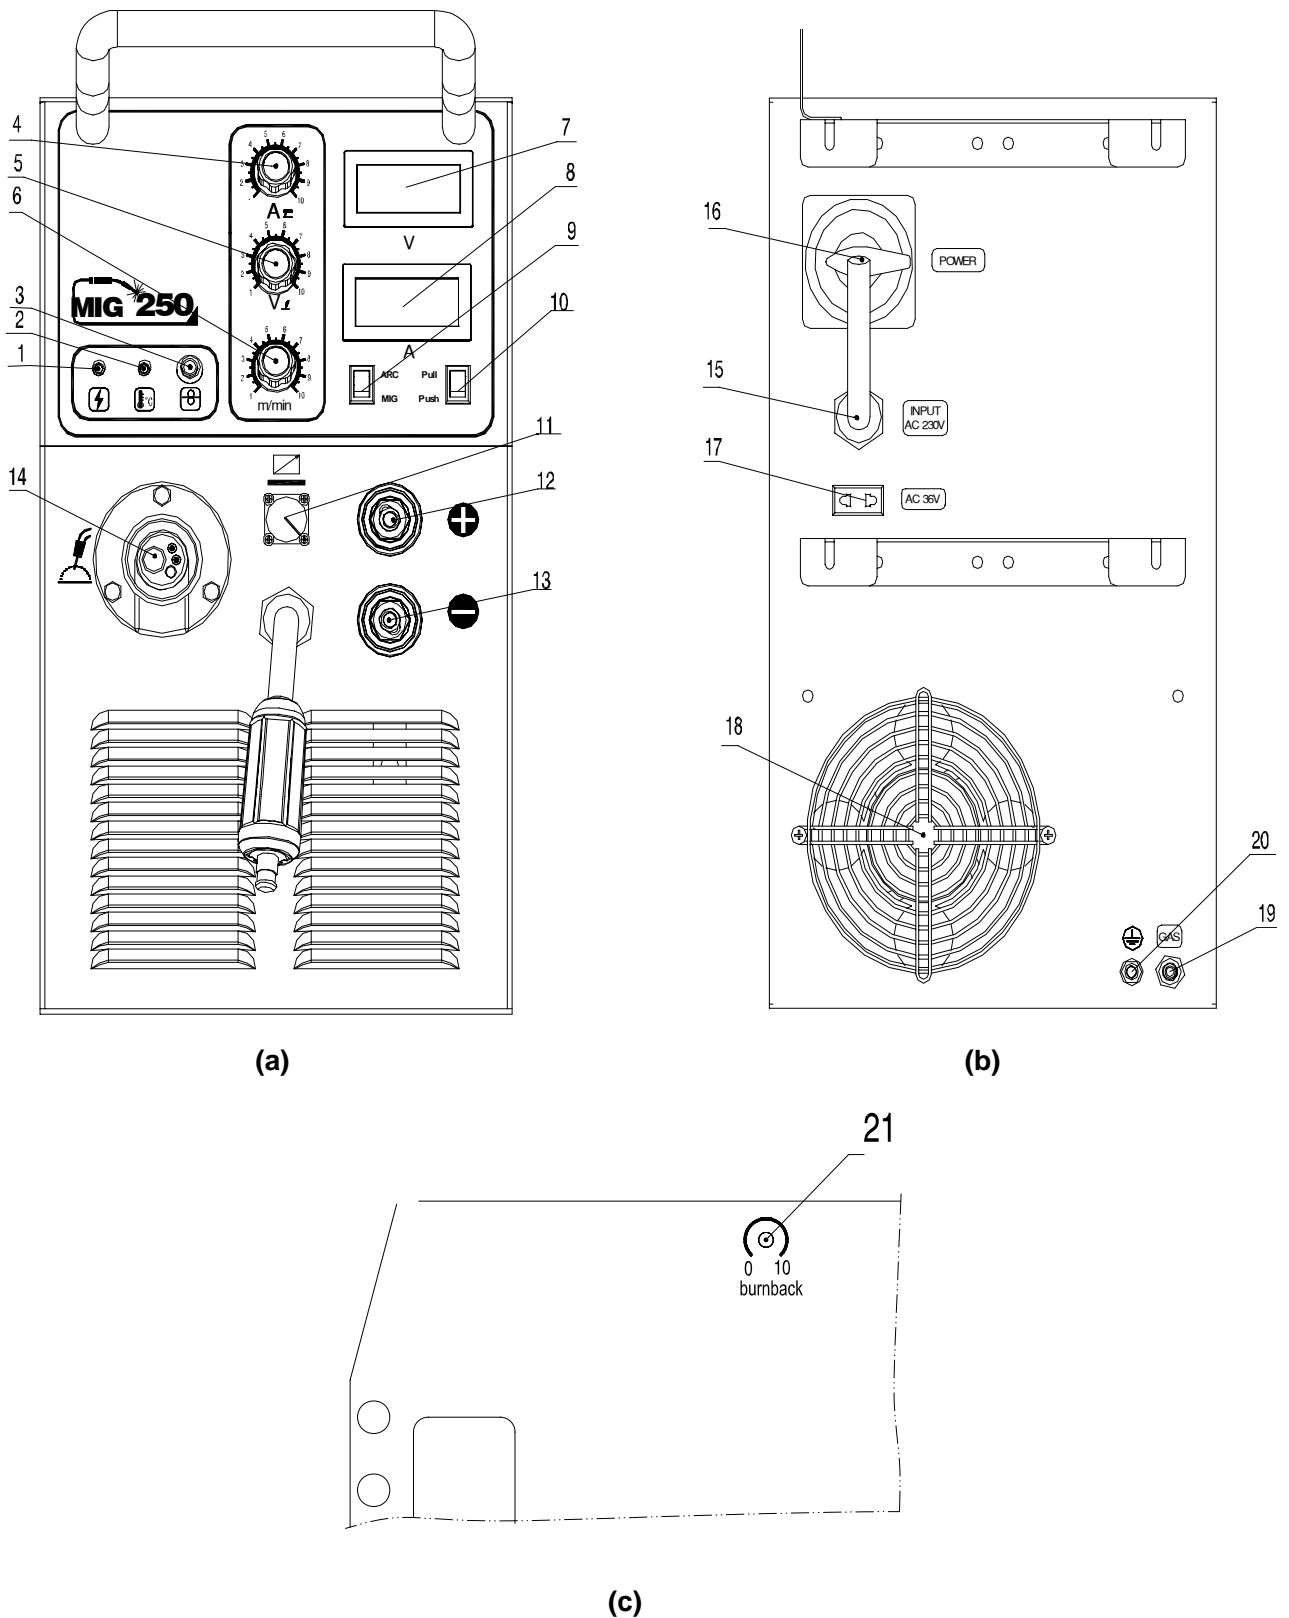

Figure 3.3 Panels of MIG 250(J67) series
3.1 Front panel (see Figure 3.3-a)
3.2 Back panel (see Figure 3.3-b)
3.3 Clapboard (see Figure 3.3-c)